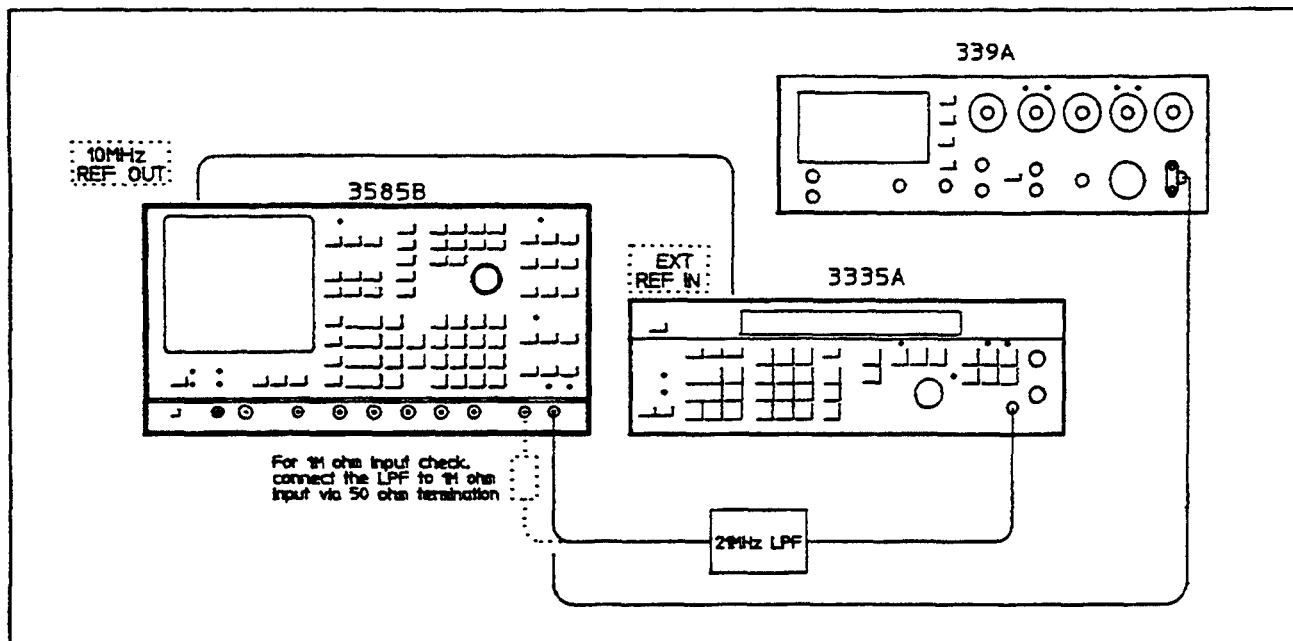

Figure 4-2.
- a. Connect the 3335A's 50 $\Omega$  output to the 21 MHz LPF. Connect the LPF's output to the 3585B's 50 $\Omega$  input. See Figure 4-2.